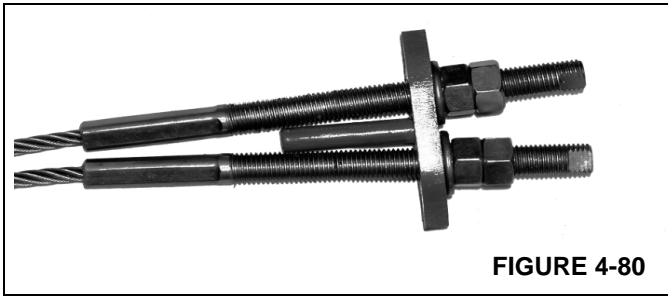

FIGURE 4-80
34. Attach two cables to each anchor adjust each cable to 1.75 inches and install locknuts (Figure 4-80).